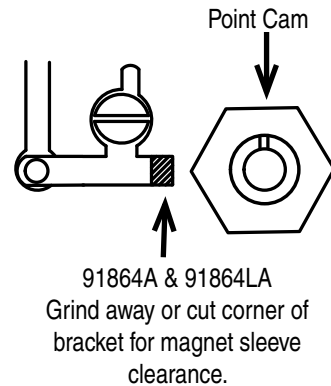

Figure 1
5. The Ignitor does not require any modification to the distributor. Therefore the point, condenser and hardware can be used as backup. **Note:** 91864A & 91864LA require a minor modification. See Figure 1.
Note: Part numbers 91864A & 91864LA modification required. (See Figure 1).